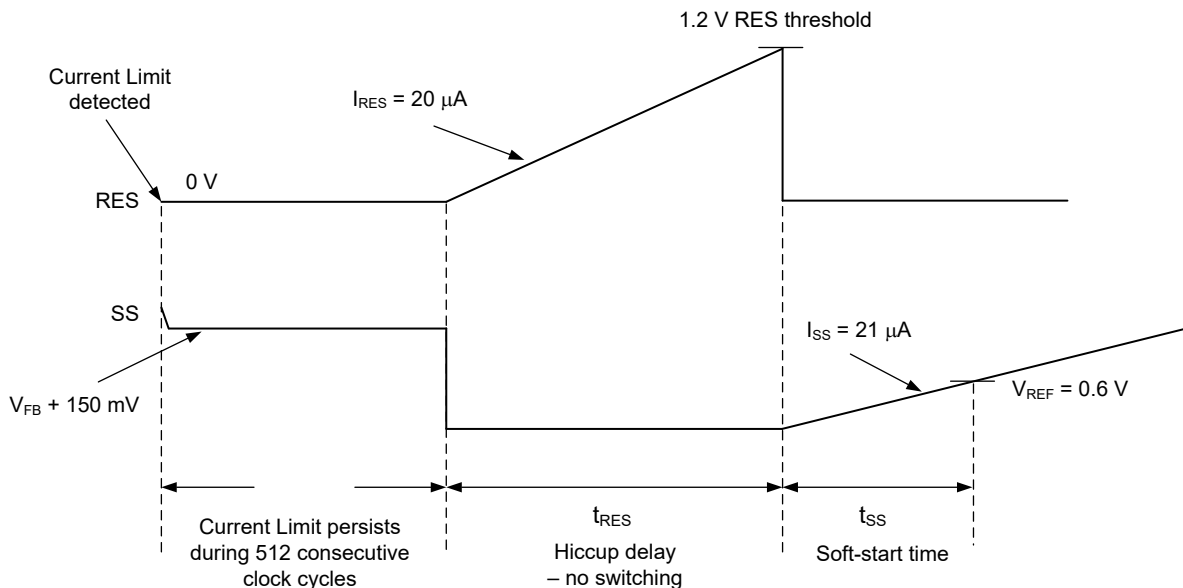

Figure 9-6. Hiccup Mode Timing Diagram
The LM5143A-Q1 includes an optional hiccup mode protection function that is enabled when a capacitor is connected to the RES pin. In normal operation, the RES capacitor is discharged to ground. If 512 cycles of cycle-by-cycle current limiting occurs, SS is pulled low and the HO and LO outputs are disabled (see Figure 9-6). A  $20\text{-}\mu\text{A}$  current source begins to charge the RES capacitor. When the RES voltage increases to  $1.2 \text{ V}$ , RES is pulled low and the SS capacitor begins to charge. The 512-cycle hiccup counter is reset if four consecutive switching cycles occur without exceeding the current limit threshold. Separate hiccup counters are provided for each channel, but the RES pin is shared by both channels. One channel can be in hiccup protection while the other operates normally. In the event that both channels are in an overcurrent condition triggering hiccup protection, the last hiccup counter to expire pulls RES low and starts the RES capacitor charging cycle. Both channels then restart together when  $V_{RES} = 1.2 \text{ V}$ . If RES is connected to VDDA at power up, the hiccup function is disabled for both channels.
- $t_{RES}$  is the specified hiccup delay as shown in Figure 9-6.